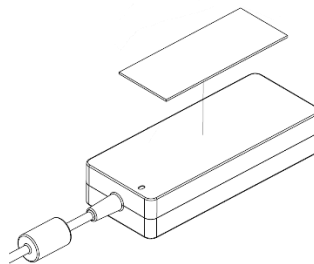

Figure 6-4 Sticking the magnetic tape to the power supply
- < Remove the foil protecting the glue layer from the magnetic tape. Stick the tape in the middle of the power supply on the power indicator side, as presented in Figure 6-4.